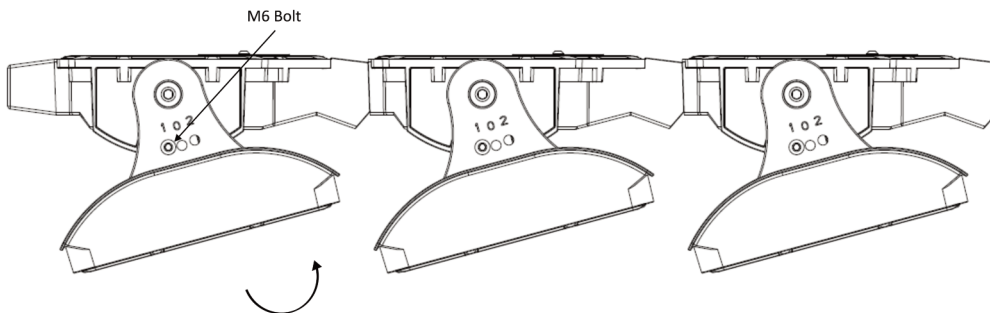

Fig. 1
1. The individual module LED heatsinks can be pivoted 15° in either direction (refer to **Figs. 1 and 2**). Begin by removing the M6 hex bolts from the “0” position on both sides of each module that will be pivoted. Rotate each heatsink to either position “1” or “2” depending on the desired angle. Retighten the bolts to ensure each module stays in the desired position.